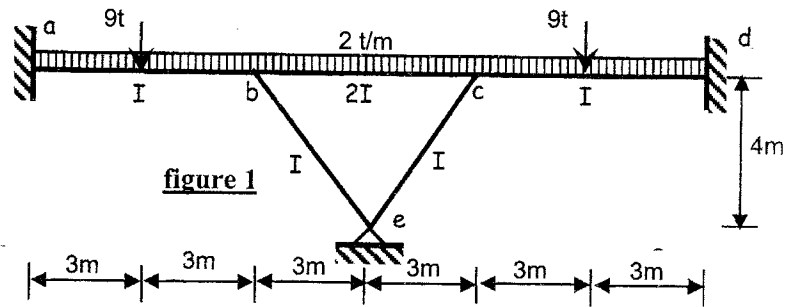

figure 1
Using the slope deflection method, draw the B.M.D for the given frame of variable I shown in figure 1.
- iv) Make a complete design the rectangular solid section  $500 \times 900\text{mm}$  shown in the Figure 1 subjected to ultimate shear,  $Q_u = 550\text{kN}$  and ultimate torsional moment,  $M_{tu} = 250\text{kN.m}$ . (6marks)
It is required to cover an area of 48m×26m using the main system shown in Fig. 1. The covered area is located in Hurghada city and used an industrial factory with width 20m attached with side car shed 6m. The used covering material is single layer of steel corrugated sheets. It is required to draw with suitable scale different views of the system showing the arrangement of systems and the used bracing systems.
For the same shown main system (Fig. 1), if the spacing between trusses (S) is equal to 6m, the own weight of steel is 30 kg/m2 and the own weight of the covering corrugated sheets is 6.0 kg/m2. In addition, if the factory is located in Hurghada City (with basic wind speed (V) 36 m/sec), and the live load is 57 kg/m2 of the covered area.
- a) Design the upper cord member (AB) shown in Fig. 1, knowing that: Max. F-ve = - 10 t, Max. F+ve = +12 t, the connection for the member at joint A is welded, and at joint C is Bolted (M16), steel used St 37 (Fy = 2.4 t/cm2) (13%)